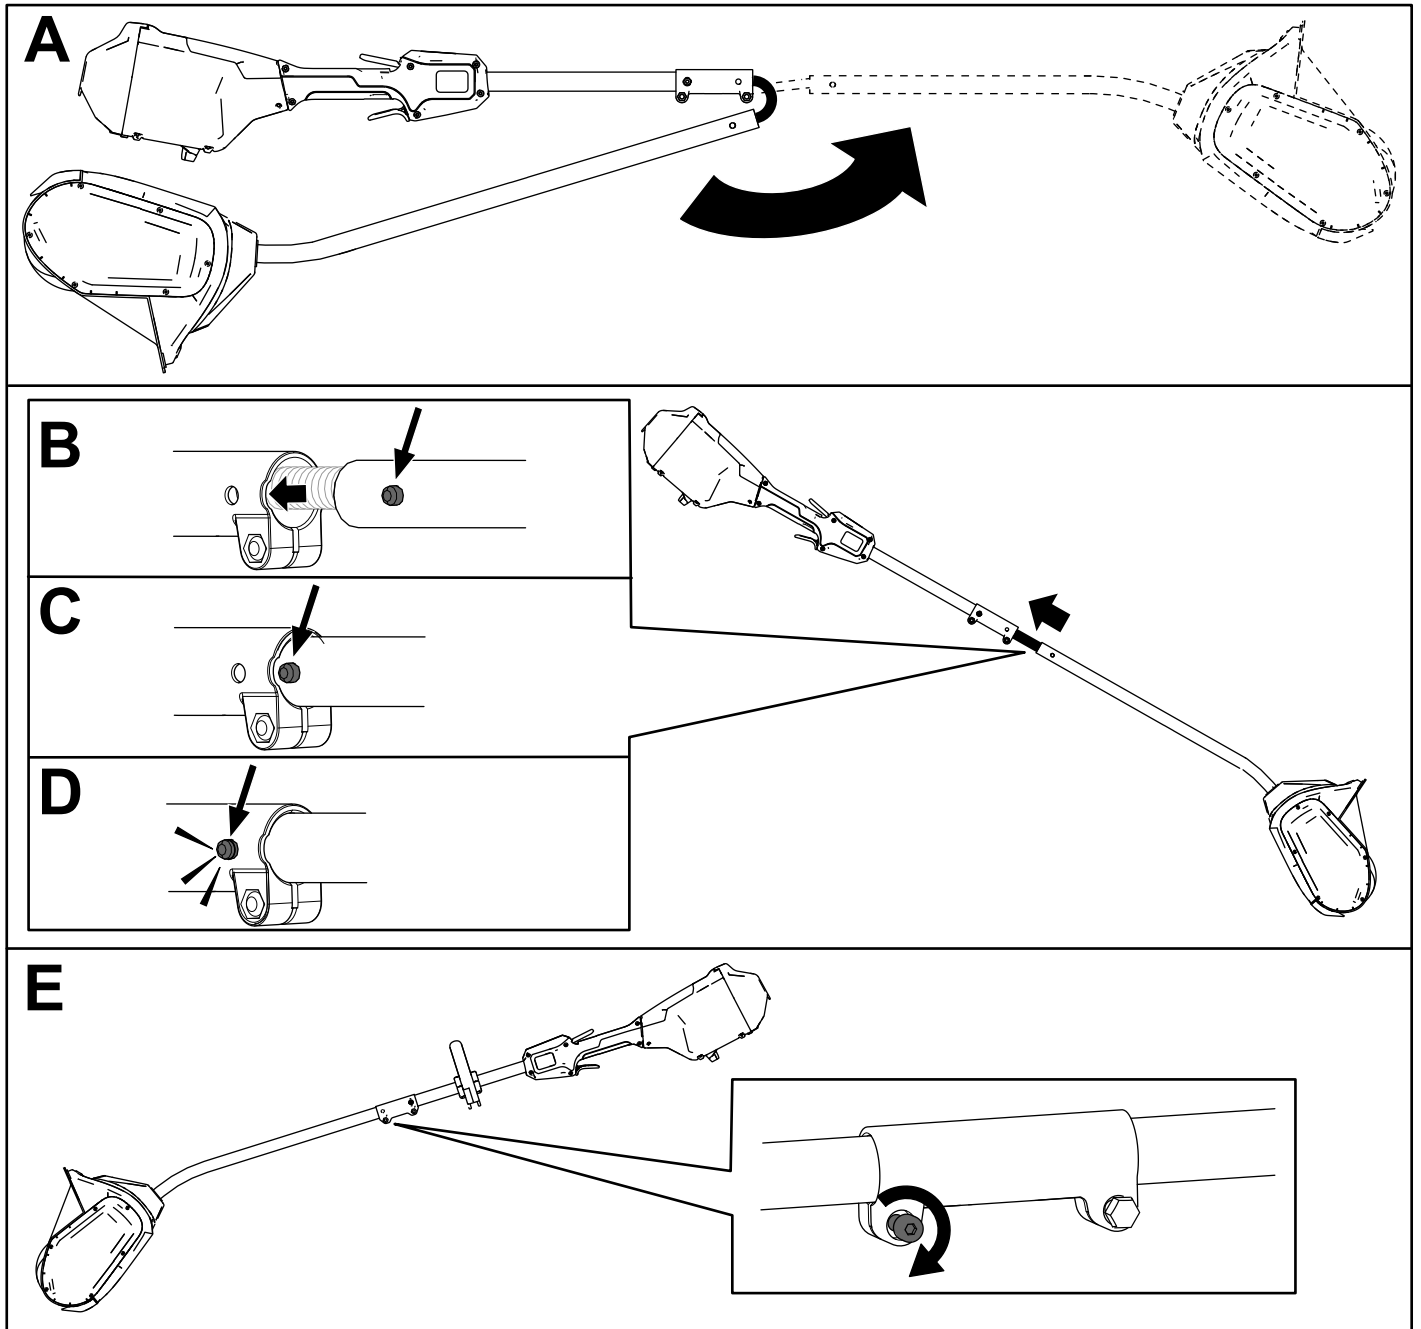

Figure 6
1. Unfold the handle (A of Figure 6).
2. Align the locking button on the lower shaft with the slotted hole on the upper shaft and slide the 2 shafts together (B and C of Figure 6).
**Note:** The locking button clicks into the slotted hole when the shafts are secured (D of Figure 6).
3. Using the provided Allen wrench, tighten the screw on the shaft connector until it is secure (E of Figure 6).